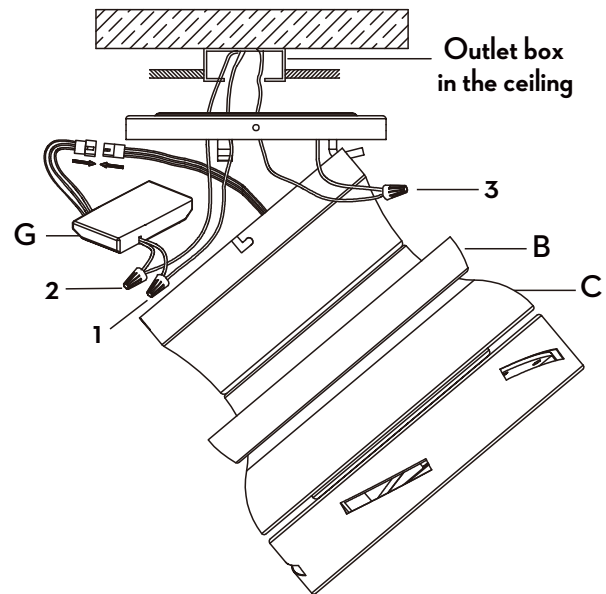

Figure 6
- Connect the receiver (G) to the fan wires by inserting the molded adaptor plug from the receiver (G) to the molded adaptor plug from the fan motor assembly (C), as illustrated in Figure 6.
- Use wire connectors (AA) to connect the receiver (G) and fan wires to the supply wires from outlet box according to Figure 6 and the following instructions: